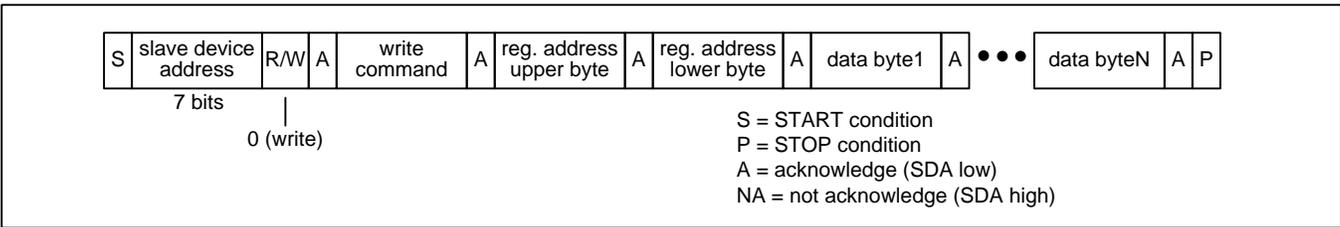

Figure 10 - I2C Register Write Transaction Functional Timing
**Register Write Transactions.** The device registers are accessible when the **EESEL** bit is 0. The bus master does an I2C write to the device. The first three bytes of this transaction are the SPI Write command (see Table 3), the upper byte of the register address, and the lower byte of the register address. Subsequent bytes are data bytes to be written. After each data byte is received, the device writes the byte to the write address and then increments the write address. The bus master terminates the write with a STOP condition (P). See Figure 10.